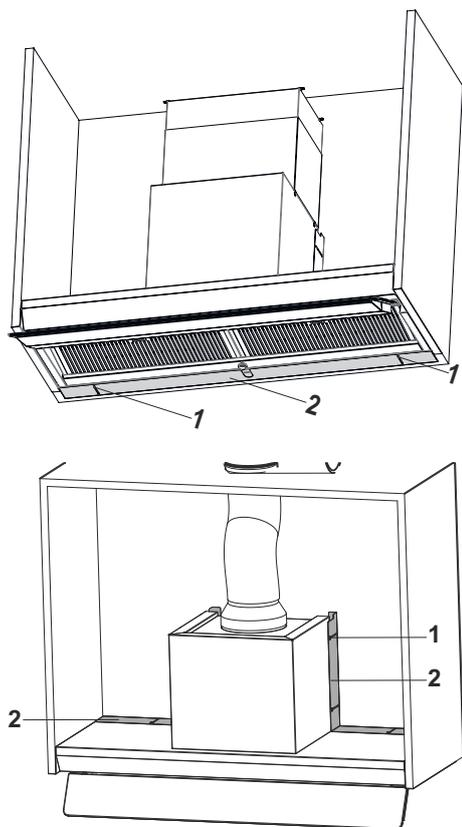

Fig. 15
4. ➔ If there is a gap between the rear surface of the hood and the wall, close this gap with the gap closing plate (Fig. 15) installed on the product.
Loosen the gap closure plate fastening screws and push the gap closure plate against the rear wall. Do the same for the gap closure plates on the body (Fig. 15).